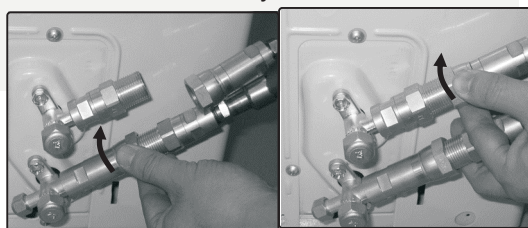

Fig.6.3
3. Align the refrigerant pipes correctly so that they line up with the valves and are not stressed. Place the screw connector on the refrigerant line just on to the thread on the outdoor unit and tighten the first few threads by hand, Fig.6.3.